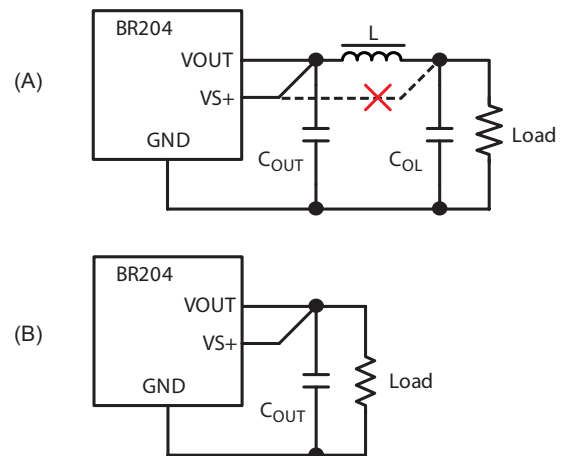

Figure 4. VS+ peripheral circuit
Reduction in output voltage can be compensated by connecting the output sense terminal, VS+, to the load. When using LC filter, the proper connection is shown in panel A of figure 4. Note: Do not connect the output sense terminal to the output of the LC filter. It may not operate normally.
**CAUTION:** When the output sense terminal is not used, it must be connected directly to the VOUT output terminal. This is shown in panel B of figure 4.